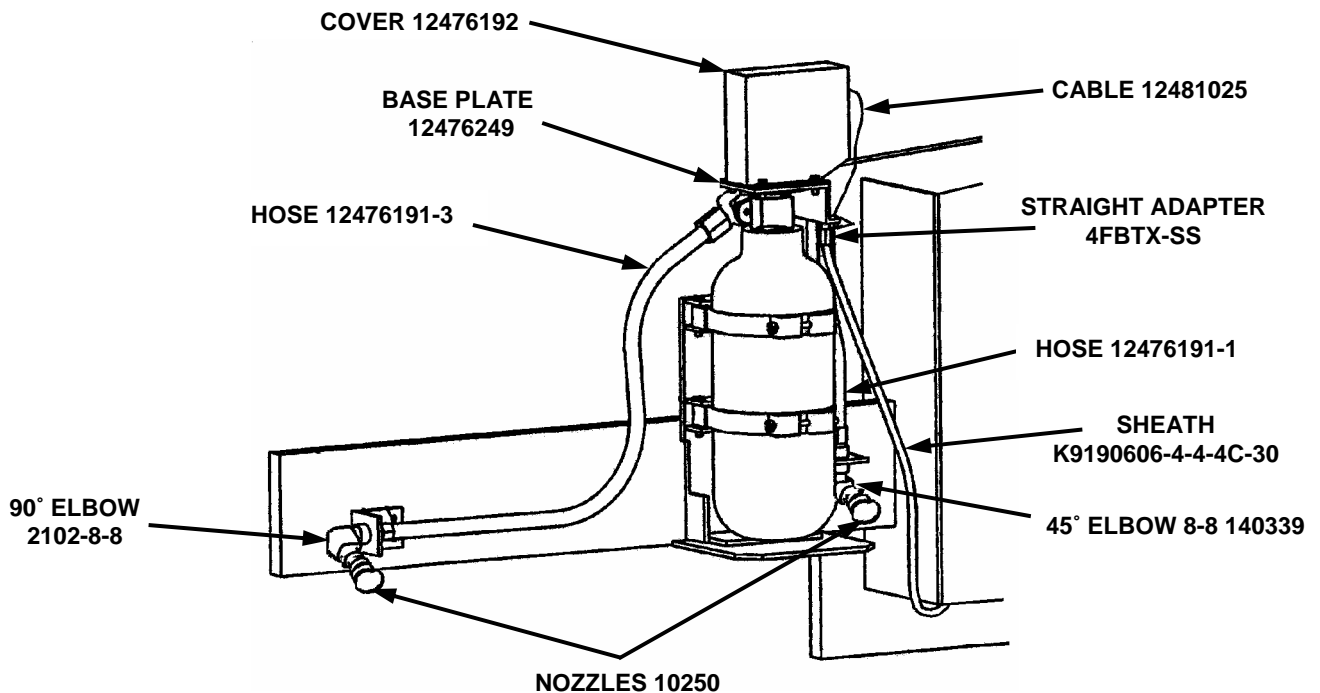

Figure 3-5. Right Side Installation
Steps f through g below apply to Figure 3-5.
- g. Refer to Figure 3-5 below to verify placement of hoses and elbows.